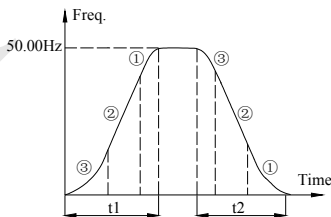

Fig. 7-2 S curve acc/dec
1: S curve Acc/Dec mode. Output frequency raise or decline as the S curve: as Fig.7-2.
S curve starts interval time as Fig.7-2 ③, output frequency changed slope increase slowly from zero.
S curve up interval time as Fig.7-2 ②, output frequency changed slope is constant.
S curve ends interval time as Fig.7-2 ①, output frequency changed slope decrease slowly to zero.